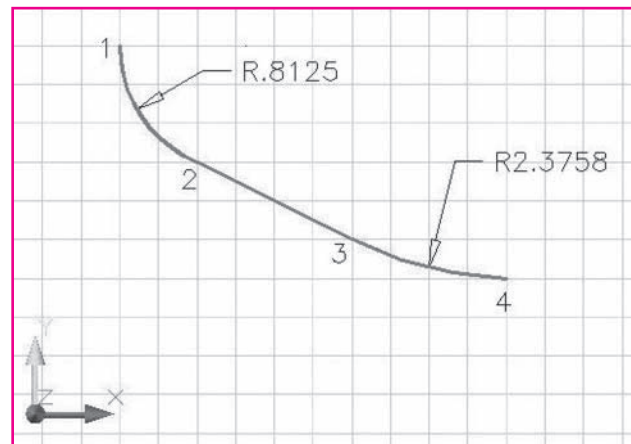

Fig. 44-2
2. Using the **PLINE Arc** and **Line** options, create the shape shown in Fig. 44-2 using the information below.